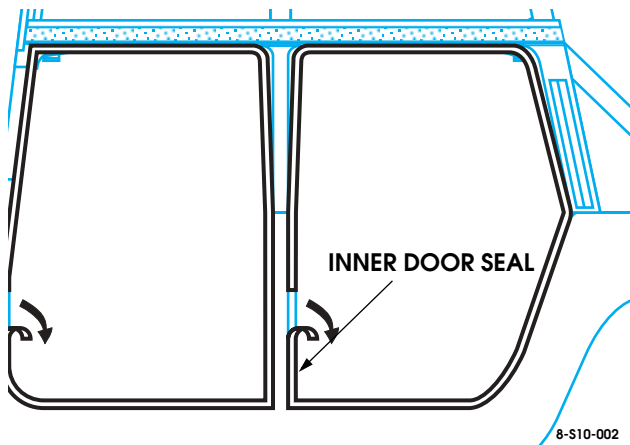

Figure 10-132: Door Seal Removal
- Remove front and rear inner door seals (Figure 10-132).